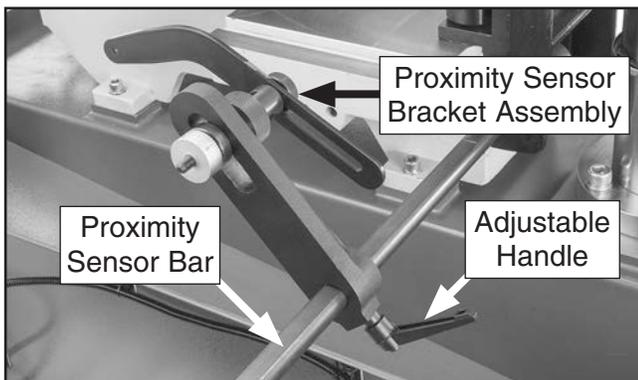

Figure 15. Proximity sensor bracket attached.
2. Slide proximity sensor bracket assembly onto proximity sensor bar, as shown in **Figure 15**, then tighten adjustable handle.